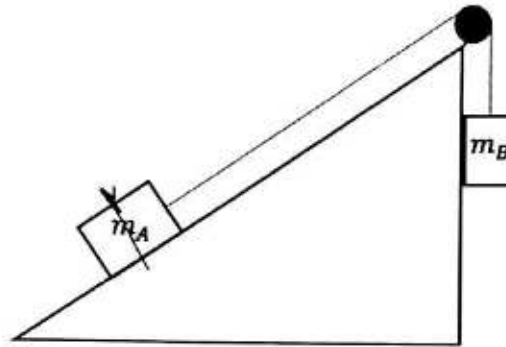

Fig Q2
2. A container of mass 500 kg is hauled up a slope by a light cable attached to a drive mass of 325 kg via a frictionless pulley as shown in Fig Q2. The slope rises 2 m in every 5 m (tan) and the friction angle is 14° .